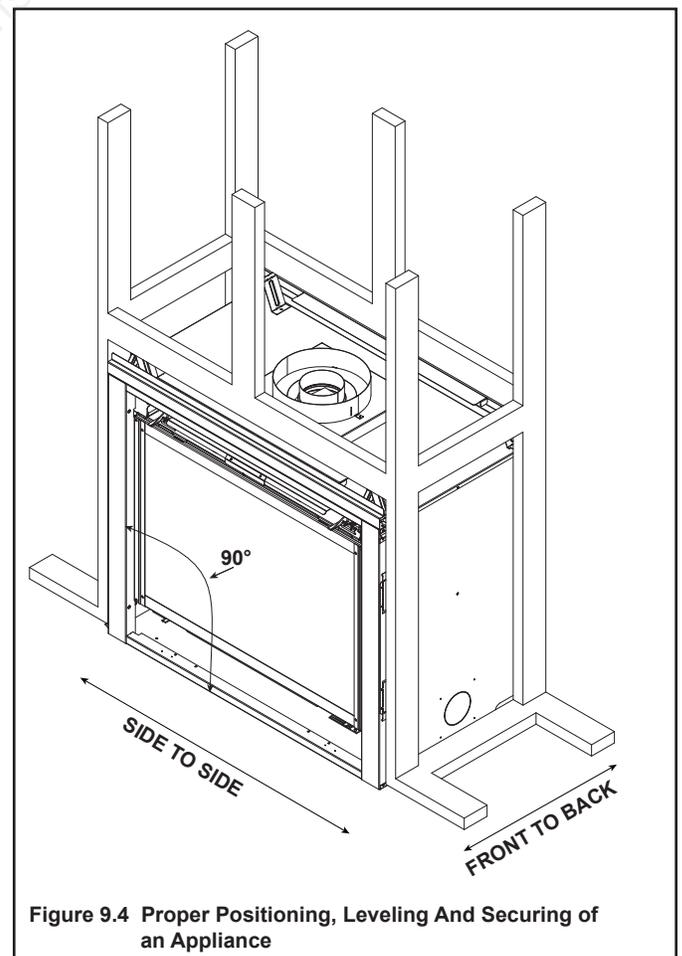

Figure 9.4 Proper Positioning, Leveling And Securing of an Appliance
6. Using a framing square, make sure that the sides of the appliance are square to the bottom as shown in Figure 9.4.